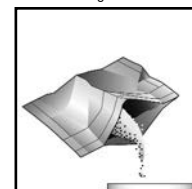

Figure 4
5. Empty one Cadmium Foil Pack into the **reaction tube** (fig. 4). Cap the tube and shake it vigorously for **exactly 3 minutes**. Allow the sample to sit undisturbed for **2 minutes**.